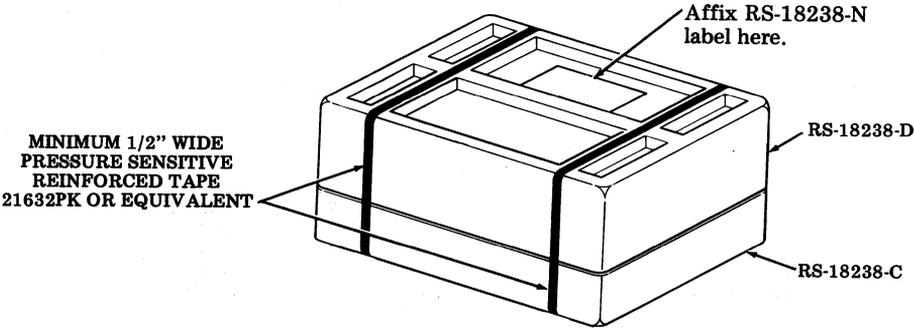

Fig. 12
Step 3. Position cover and secure with two bands of pressure sensitive reinforced tape. See Fig. 12.